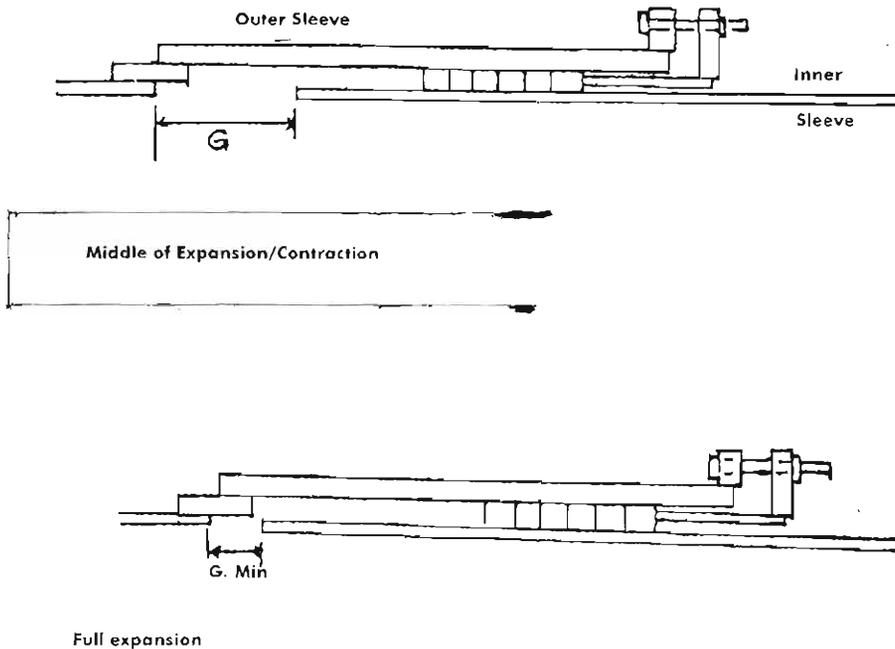

Figure 5.12: Expansion Joint Positions during Installation
When installing an expansion joint, the temperature at the time of installation must be taken into consideration, so that the minimum gap is maintained when the pipe expands fully, as a result of the highest possible temperature rise, and the maximum gap is not exceeded when the pipe contracts fully (Figure 5.12). The temperature of the penstock may be higher or lower than the ambient temperature, depending, for example, on whether
Since the pipe temperature at present is 15°C, the gap (G) set between the two pipe ends must be such that it maintains allowable G_{max} and G_{min} at lowest and highest temperatures (Figure 5.12). This value of G is determined as follows.